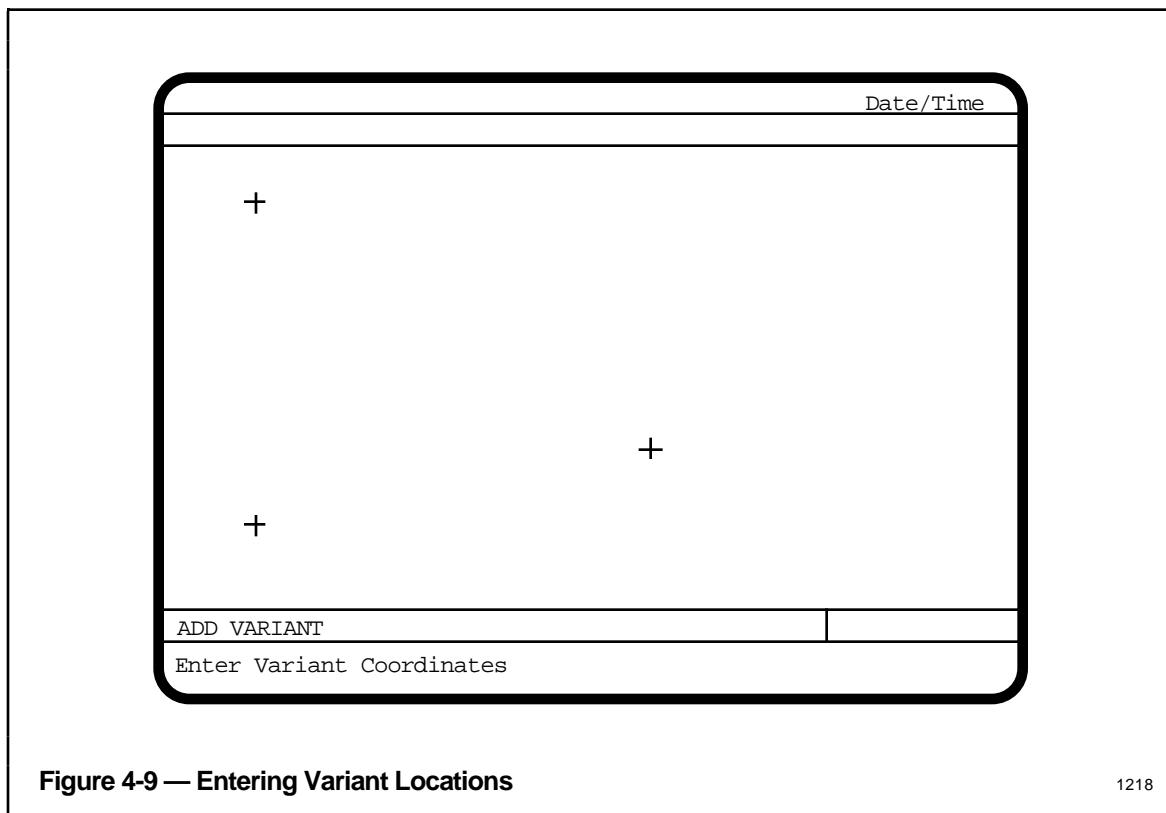

Figure 4-9 — Entering Variant Locations
Variants are indicated by VR-keys (e.g., VR-1 in Figure 4-1). After invoking the Add Variant command, use the cursor to specify locations where the variants will appear. Each location is marked by a cross (see Figure 4-9).
You may find it helpful to make a scratch-pad note of the cursor-position numbers on the second line from the top of the screen when you press the SELECT key to mark the value locations. All of the value locations can be entered with a single command and they are marked with a cross, as shown in Figure 4-9. When all locations are specified, the Picture Editor presents a form that you must fill out to describe each value. Refer to the paper Value (V) Form and enter the expression. The Picture Editor may also prompt for the format and variable type. If so, enter this information as listed on the V Form for that value object.